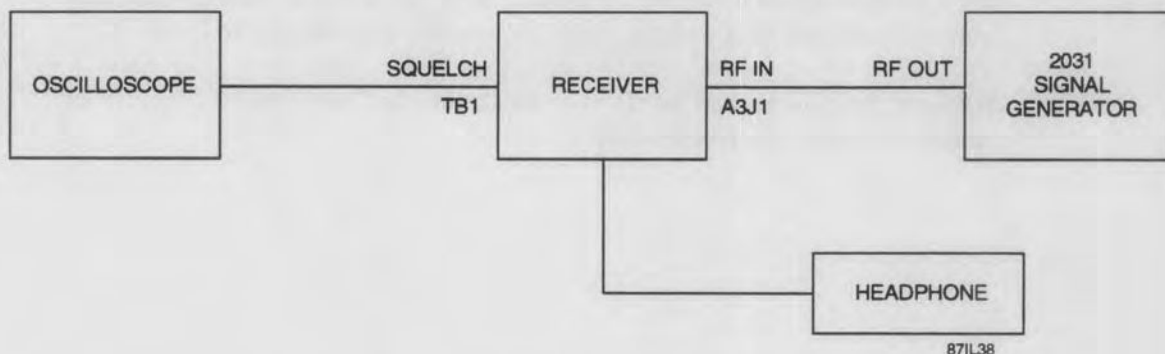

Figure 7-7. Squelch/Mute Performance Test Equipment Connection
1. Connect the HF-1000 Receiver and test equipment as illustrated in **Figure 7-7**.